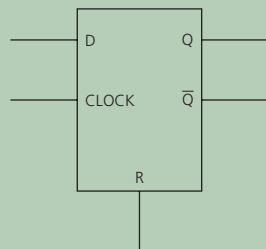

Figure Q6
5. a. i. Draw a circuit diagram to show how a D-type flip flop (Figure Q6) can be connected to divide a clock frequency by 2, and label the input and output.